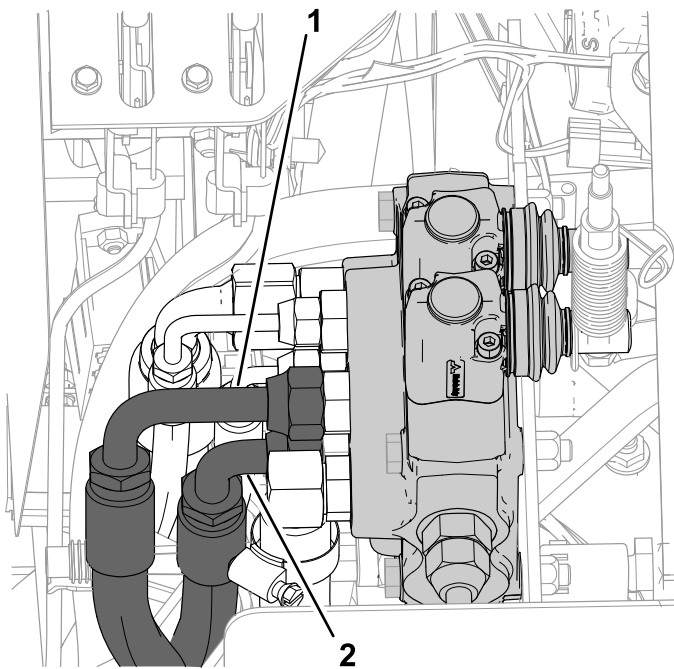

Figure 15
- Connect the short elbow fitting to the bottom port on the valve (Figure 15).
5. Connect the long elbow fitting to the top port on the valve (Figure 15).